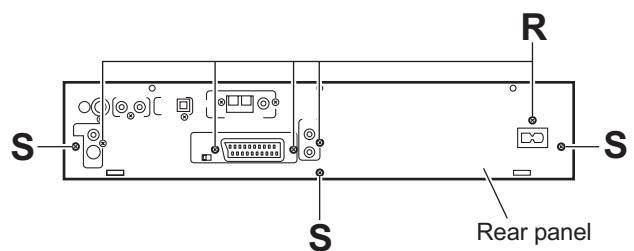
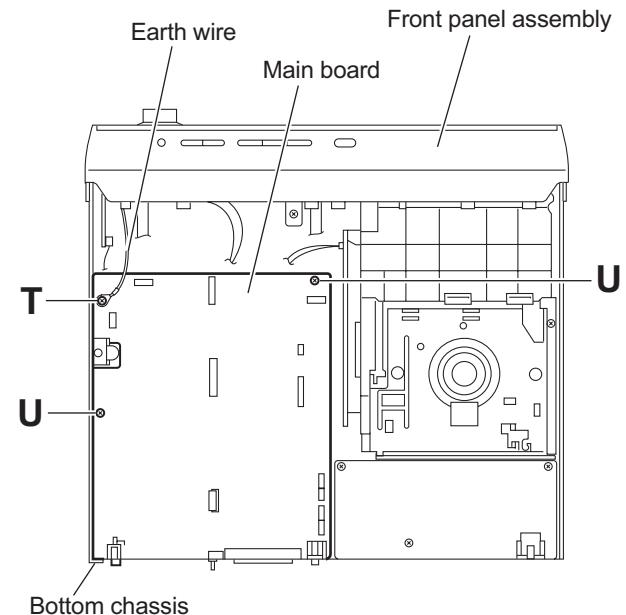

Fig.12
Fig.13
(4) From the back side of the main body, remove the five screws **R** and three screws **S** attaching the rear panel. (See Fig.12.)
(5) Take out the rear panel together the audio & digital input board and tuner.
(6) From the top side of the main body, remove the screw **T** and two screws **U** attaching the main board to the chassis base. (See Fig.13.)